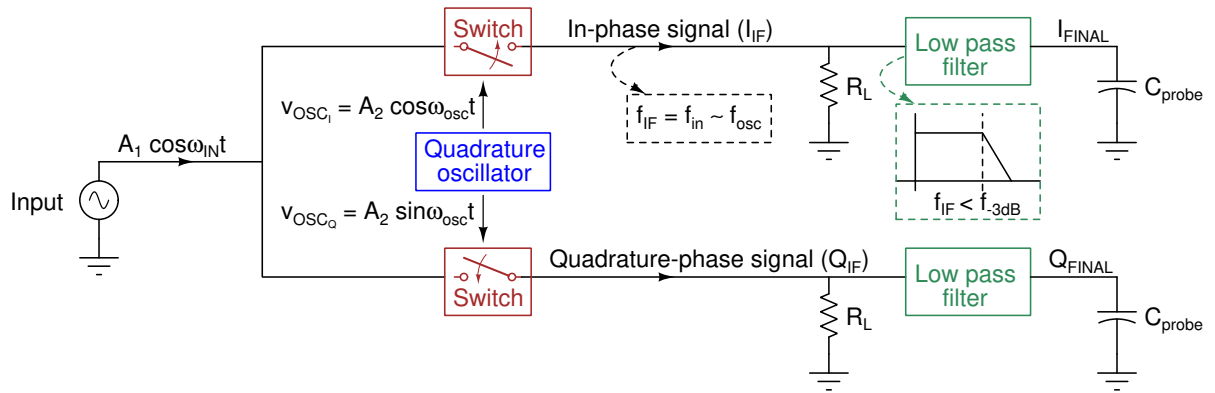

Figure 1
Fig. 1 depicts a quadrature down converter (QDC) that is commonly used in modern day wireless receivers (RX) such as Bluetooth, Wi-Fi and WLAN. Quadrature downconversion helps in interference mitigation and improves the quality of communication. In this project, we will implement a prototype of QDC for given specifications.
As shown in Fig. 1, the input signal  $v_{in} = A_1 \cos(\omega_{in} t)$  is mixed with  $v_{OSC_I} = A_2 \cos(\omega_{OSC} t)$  and  $v_{OSC_Q} = A_2 \sin(\omega_{OSC} t)$  to produce in-phase ( $v_{IF_I}$ ) and quadrature-phase ( $v_{IF_Q}$ ) intermediate frequency (IF) signals, respectively. The in-phase and quadrature-phase signals have a phase difference of  $90^\circ$ . Mixing of two signals is equivalent to their multiplication as shown below.
As shown in Fig. 1, the mixed signal is fed a low pass filter to pass only the IF signals with frequency  $\omega_{IF} = (\omega_{IN} - \omega_{OSC})$ , which can be sufficiently low value for sufficiently high values of  $\omega_{IN}$  and  $\omega_{osc}$ . For example, if  $f_{IN} = 2.4$  GHz and  $f_{osc} = 2.401$  GHz, then  $f_{IF} = 1$  MHz.
Connect all building blocks (oscillator, mixer, filter) and make the complete circuit shown in Fig. 1. Clearly show and tabulate all component/supply values in the schematic.